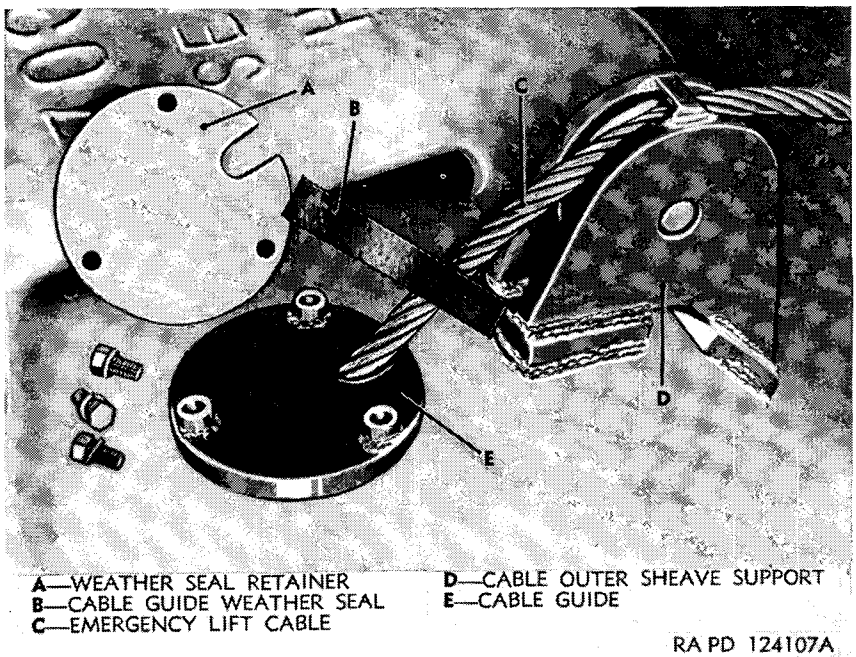

Figure 38. Emergency-lift-cable outer-sheave support and guide.
d. Place over the cable, the round cable guide (in which there is a hole for the cable to pass through), the cable-guide weather seal, and the large outer-sheave support (the base of which is shipped to fit the contour of the rounded top-front portion of the vehicle hull) (fig. 38).
l. Draw the cable tight from inside the vehicle, and position the outer-sheave support at the top-front curvature of the hull, with the back of the support resting on top of the hull and the front of the support pressed against the sloping front of the hull (fig. 38). Aline the support sheave with the sheave in the inner-sheave support.
q. Press the weather seal (already around cable) down onto the cable guide welded to the top of the hull. Position the weather-seal retainer on the guide and secure it with three cap screws and lock washers (fig. 38). There is a slot at the front of the retainer for passage of the cable. Draw the retainer down as tightly as possible.